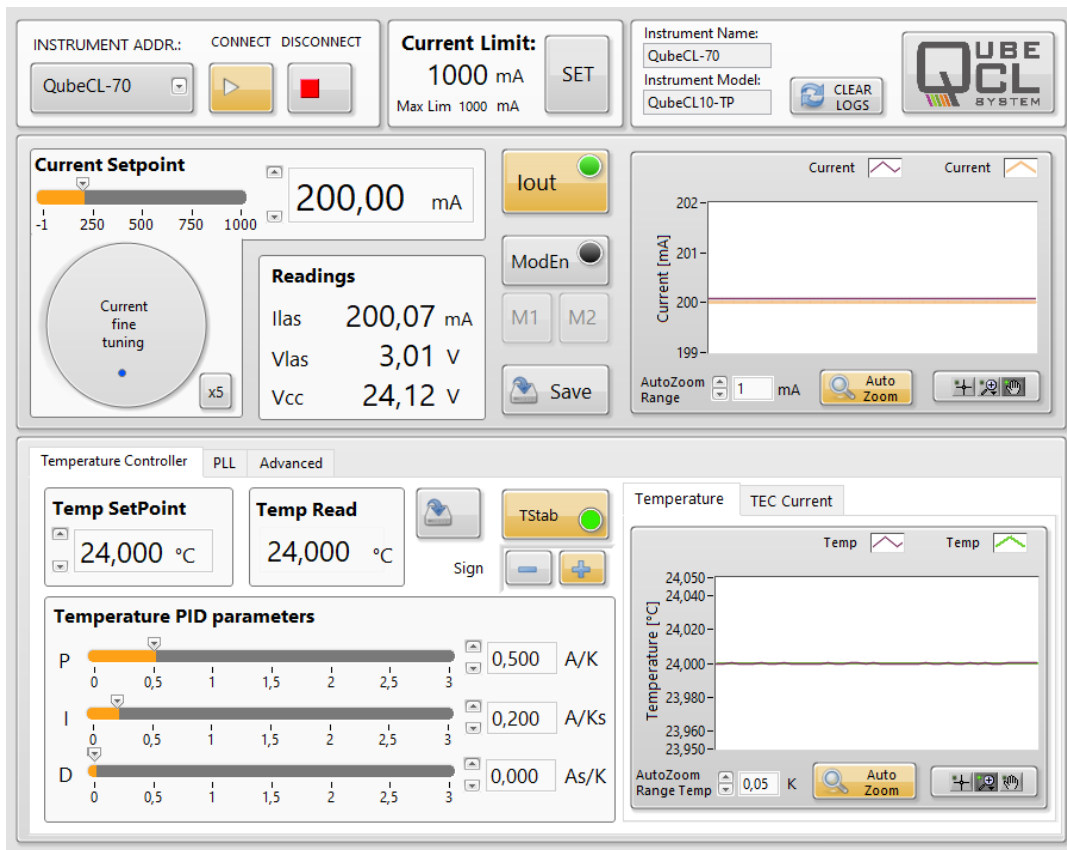

Figure 5: Graphical view of the QubeCL control software: Temperature and current control
- 5 Play with P and I gains in order to achieve a minimum number of oscillations before reaching a stable temperature as the one shown in Figure 5:
INFO: If the temperature control situation as, for example, the one shown in Figure 5 is saved in the main unit of the QubeCL system by using the save button in the program, the same situation is recovered in the successive POWER on switching of the QubeCL instrument. Otherwise the unsaved temperature parameters must be set again by following the above procedure
INFO: If the current control situation is, for example, the one shown in Figure 5 is saved in the main unit of the QubeCL system by using the save button in the program, the current set point is recovered in the successive POWER on switching of the QubeCL instrument.